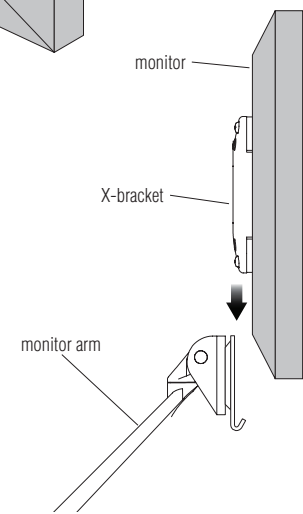

Figure 9
5. Slide X-bracket with monitor onto upper portion of monitor arm as illustrated (Figure 9).